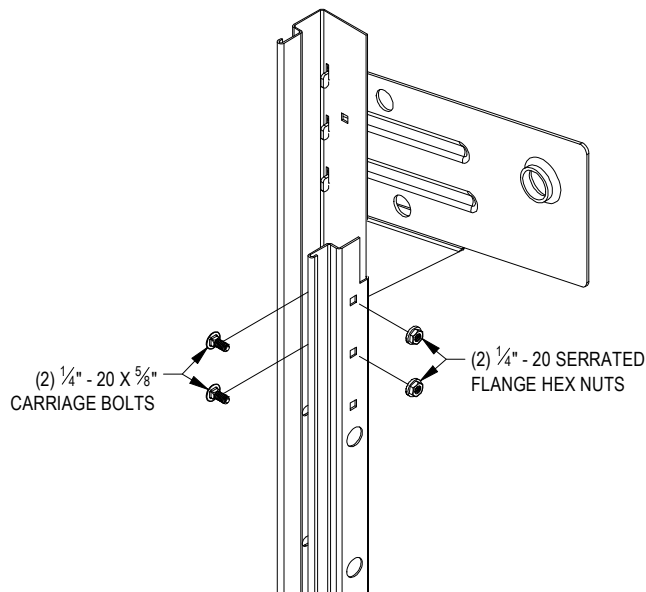

FIGURE 14:
- Attach two (2) 1/4" - 20 X 5/8" Carriage Bolts and 1/4" - 20 Serrated Flange Hex Nuts per guide and hand tighten 1/4" - 20 Serrated Flange Hex Nuts when in place. **See Figure 14.**